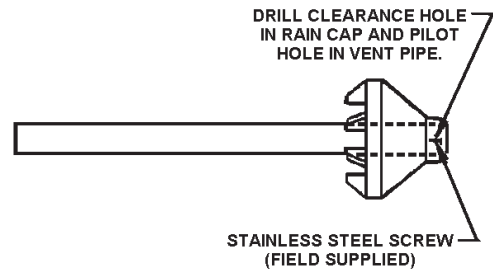

Figure: 27
- Cement rain cap to smaller diameter kit pipe, see Figure 27.
NOTE: Instead of cementing the smaller pipe to the rain cap, a field-supplied stainless steel screw may be used to secure the 2 components together when field disassembly is desired for cleaning, see Figure 27.
- Cement the rain cap to the smaller diameter kit pipe, see "Figure: 27".
NOTE: Instead of cementing the smaller pipe to the rain cap, a field-supplied stainless steel screw may be used to secure the 2 components together when field disassembly is desired for cleaning, see "Figure: 27".